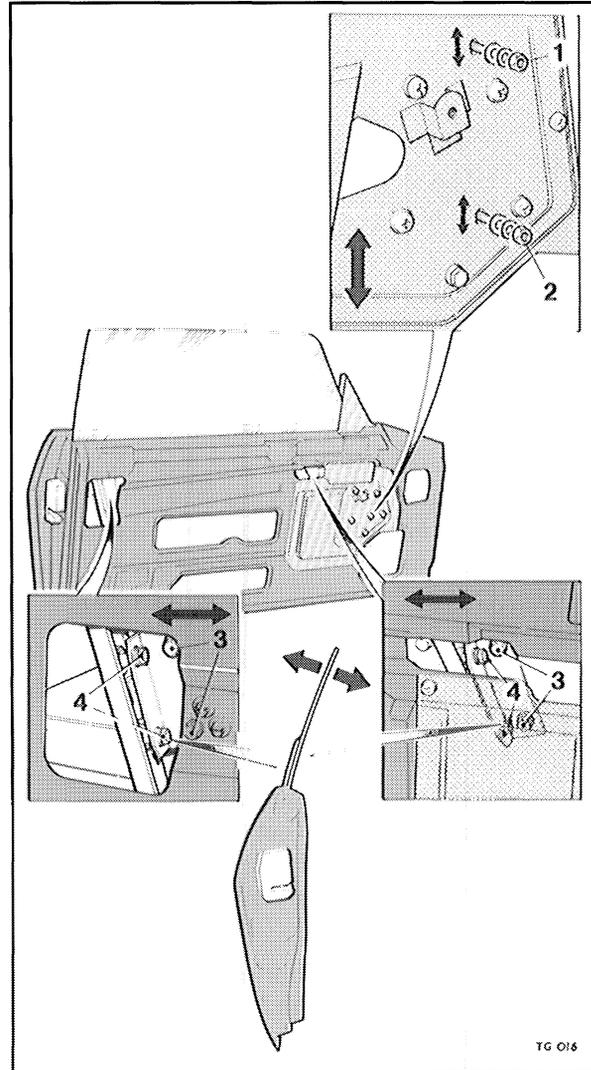

Fig 9.3
To set the door glass to its optimum position proceed as follows (refer to Fig. 9.3):
Slacken the glass fixings (items 1,2,3 and 4 Fig 9.3)
Secure the regulator 'up' stop (1 Fig. 9.3) and the four profile fixing screws (3 Fig 9.3). Close the door and check that the seal flip hinges correctly over the door glass.
Secure the 'in-out' fixing (4 Fig 9.3) and the 'down' stop (2 Fig 9.3).